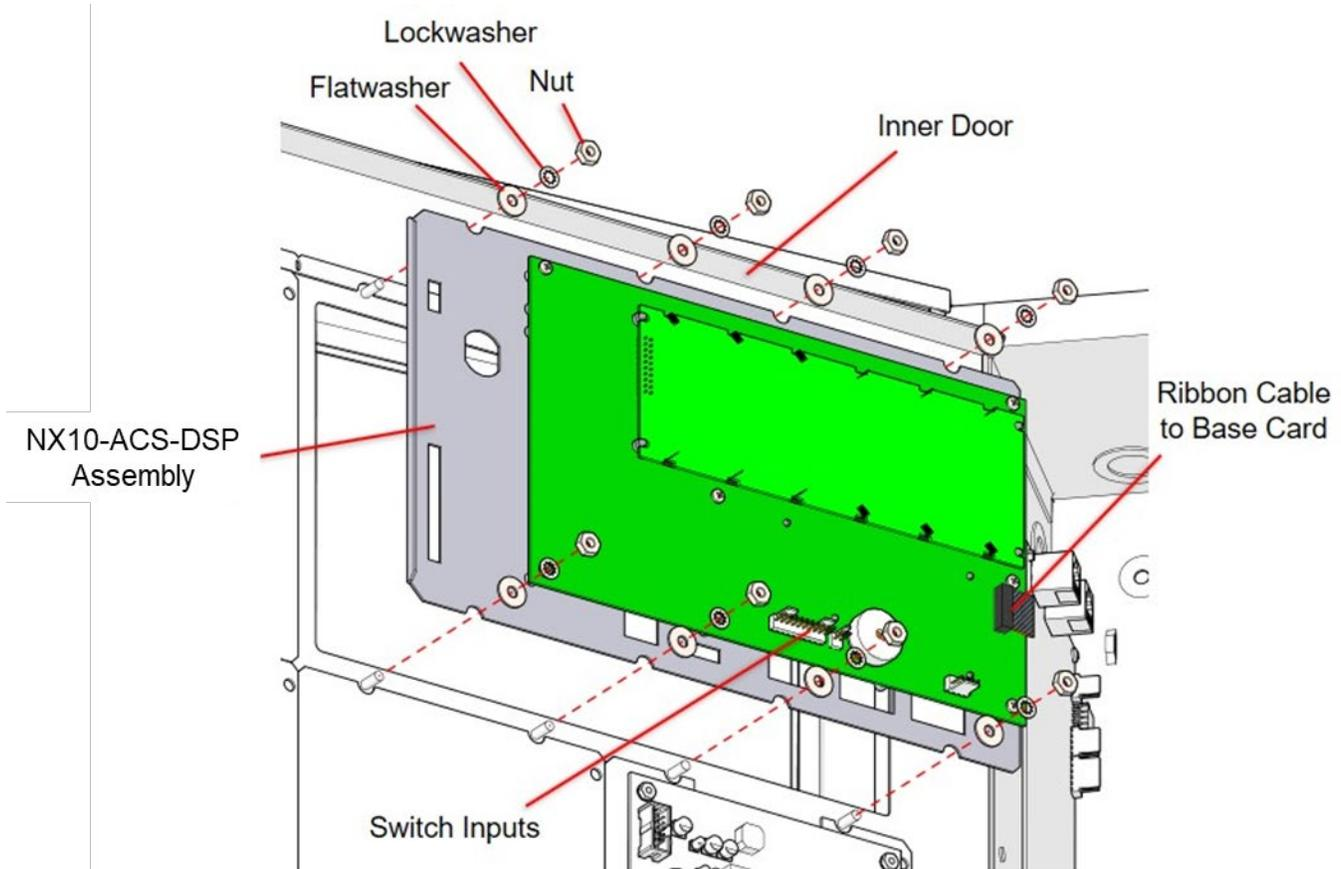

Figure 20 - NX10-ACS-DSP Module
1. Mount the NX10-EM-PSU module to the enclosure's blind thread PEM standoffs, located on the right-side of the enclosure below the NX10-ACS-2L base card, using the four (4) screws supplied with the module (Figure 20).
3. Plug the other end of the Molex cable harness into the NX10-EM-PSU Molex connector (PL1) [Figure 20]. It is recommended to use the supplied cable ties to secure the AC Molex cable harness to the enclosure's backbox.
To interface the additional power to the NX10-ACS-2L two-loop base card, connect the four (4) flying leads of the supplied NX10-EM-PSU DC cable harness to the proper terminals of the NX10-EM-PSU module (green lead to common (C), second green lead to normally open (NO), black lead to negative (-) and red lead to positive (+) [Figure 20].
After the leads are wired to the correct NX10-EM-PSU module terminals, remove the four-position terminal block of the NX10-ACS-2L two-loop base card, located at the ANC PSU FAULT and ANC PSU terminals (Figure 20). With the four-position terminal block removed, plug the four-position terminal block installed on the NX10-EM-PSU DC cable harness into the removed four-position terminal block location.
The power from the NX10-EM-PSU expansion power supply module is not power limited, cabling must run as shown in Figure 20, power limited wiring must maintain a .25" spacing from these wires.